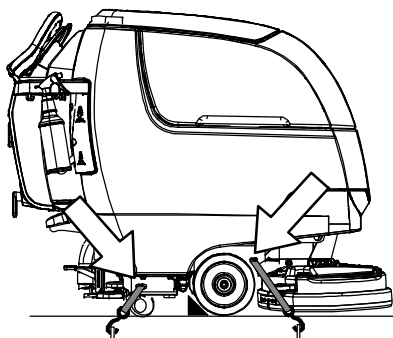

FIG. 132
3. Once loaded, position the front of the machine up against the front of the trailer or truck. Lower the scrub head, turn key off and set parking brake, if equipped (Figure 132).
4. Place a block behind each wheel (Figure 132).
5. Using tie-down straps, secure the machine using the four tie-down brackets located on the machine frame (Figure 132). It may be necessary to install tie-down brackets to the floor of your trailer or truck.